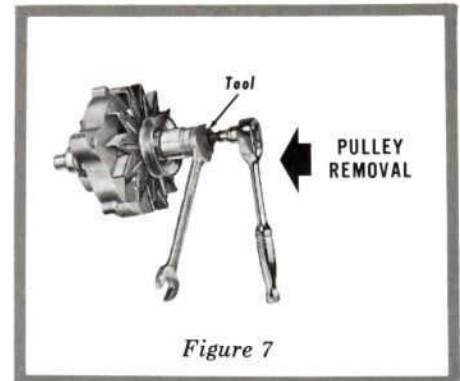

Figure 7
5. Remove the alternator drive pulley nut, then slide the pulley fan, fan spacer, rotor and bearing spacer from the front end housing. See Figure 7.